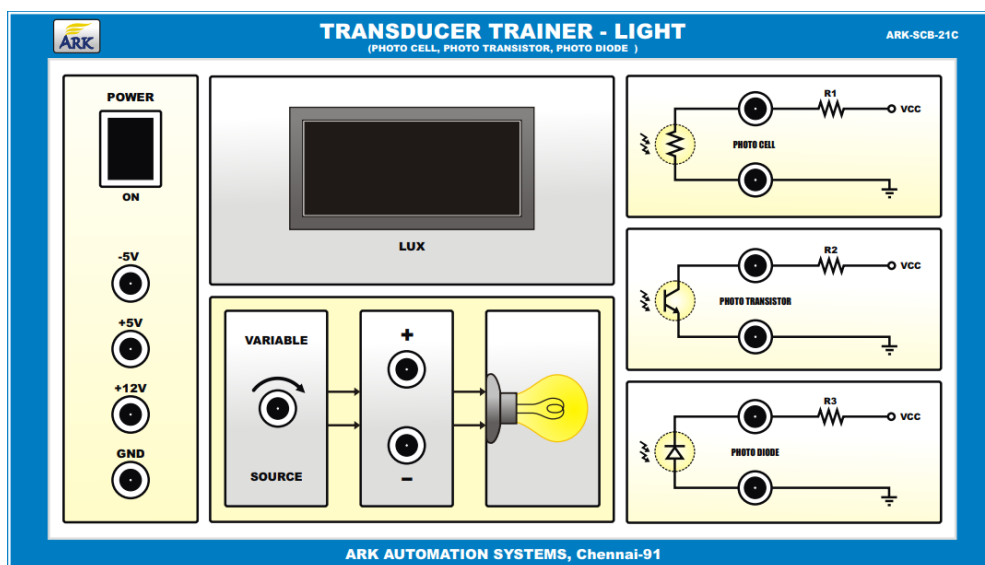

Fig. 1
1. Connect sensor module to board by using connector option provided in the panel as shown in Fig. 1.